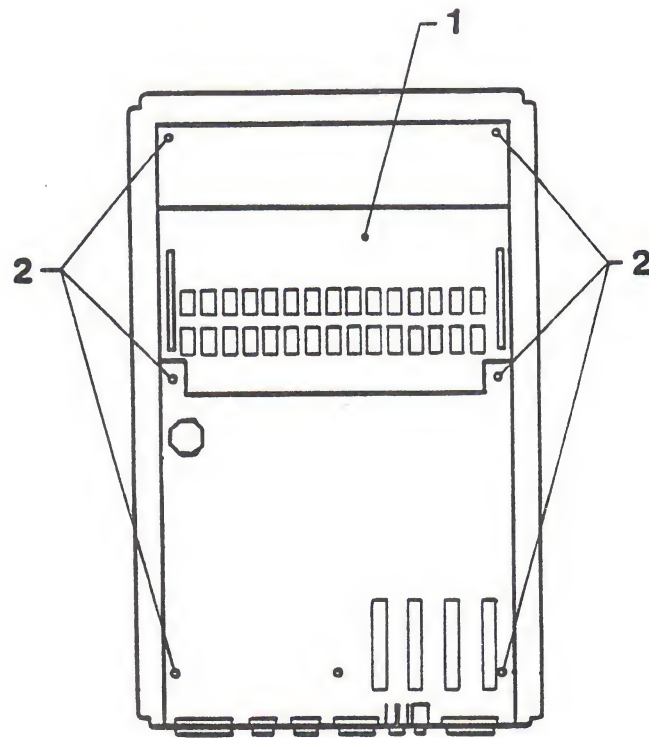

FIGURE 15
15. Remove the six retaining screws on the main logic board. (See Figure 15, Item 2).
2. Replace the main logic board by slipping the peripheral connectors into their cutouts in the rear access panel, and then replacing the retaining screws with the screwdriver (Figure 15, Item 2).
3. Replace the memory board (Figure 15, Item 1), making sure memory board is properly oriented. (The RAM chips on the memory board point in the opposite direction to the chips on the main logic board. The notches on the memory board IC's should be facing the output connectors.)